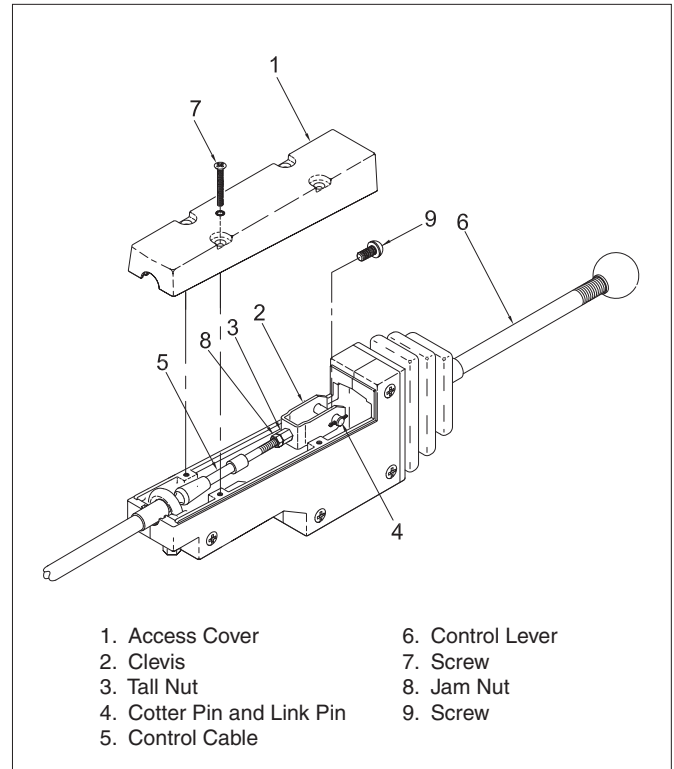

Figure 17 - Control Cable Adjustments
B. See Figure 17. Make sure the positions of the power control lever are the same as the position indicators on the decal. Remove the access cover (Item 1) on the housing to make adjustments. Loosen the jam nut (Item 8) that keeps the tall nut (Item 3) from turning. Remove the cotter pin and link pin (Item 5) from the clevis (Item 2). Turn the tall nut and clevis to adjust the length of the control cable (Item 5). Use the link pin and cotter pin to connect the clevis to the control handle again and check the operation. When the adjustment is complete, install the access cover.